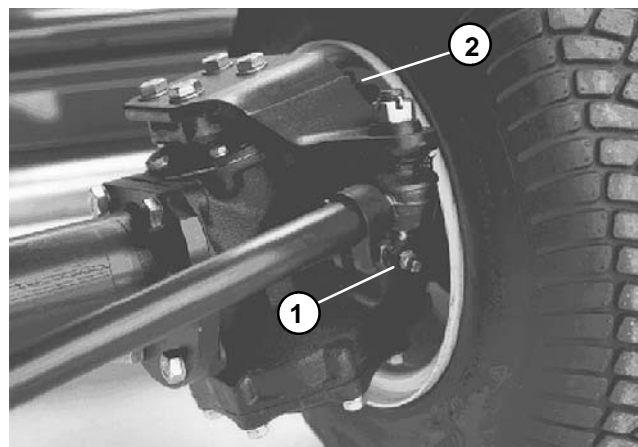

Figure 6
6. Remove the gear case check plug and one of the knuckle arm bolts from each gear case. Add enough lubricant through knuckle arm hole to bring the oil level up to the bottom of the plug hole (Fig. 6).